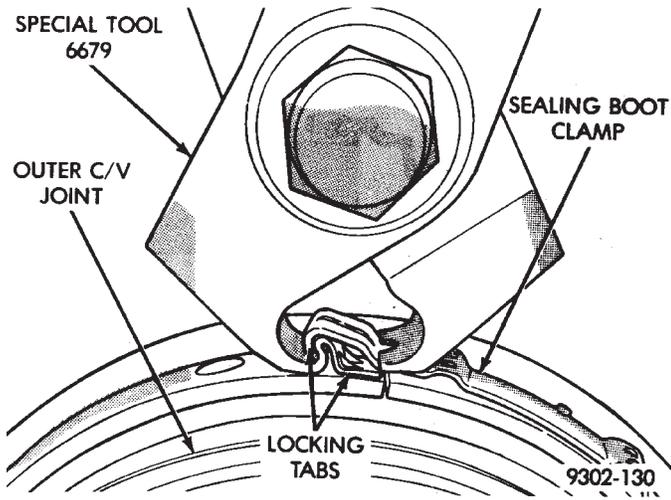

Fig. 21 Installation Of Boot Clamp
(5) Using ratchet handles, squeeze jaws of Special Tool 6679 together, until locking tabs on boot clamp are locked together (Fig. 21 and 22).